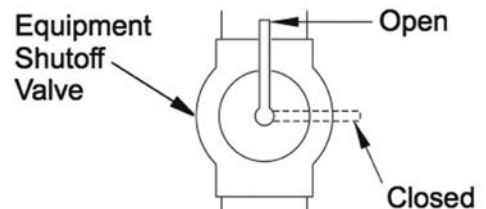

Fig. 12 - Equipment Shutoff Valve
1. Close equipment shutoff valve (See Fig. 12).
1. Open equipment shutoff valve (See Fig. 12).